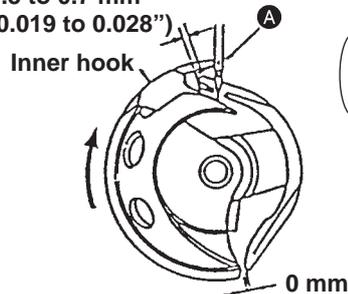

Fig. 2
The center of the needle is aligned with the blade point of inner hook (section A) at the time of step 1) (Fig. 2)
- 6) Clearance provided between the inner hook and the shuttle driver is 0.5 to 0.7 mm. (Fig. 2)
(Caution) Be sure to turn the inner hook in the direction of the arrow mark as shown in (Fig. 2) when performing the adjustment of the inner hook timing.
- 4) Loosen setscrew ❷ in the shuttle and turn eccentric shaft ❸ to adjust the clearance.
- 5) Loosen setscrew ❷ in the shuttle and adjust the clearance. Take care when adjusting the clearance provided between the needle and the blade point of the inner hook of the item 4).
(Caution) The clearance provided between the inner hook and the shuttle driver in the direction of rotation is 0.5 mm to 0.7 mm as shown in (Fig. 2). Tap section ❹ to adjust the clearance. After performing the adjustment, make sure that the upper and lower clearances of section ❸ in terms of the inner hook are equal.